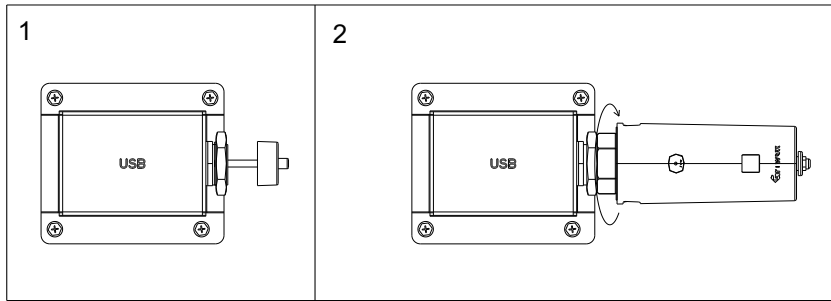

Fig 6.14 Connecting the monitoring device
2. Insert the USB-to-WiFi module, ensuring that the triangle icon is facing upward, and then secure it by tightening the screw, as shown in Fig 6.14. If the module is working properly, its LED indicator will light up.